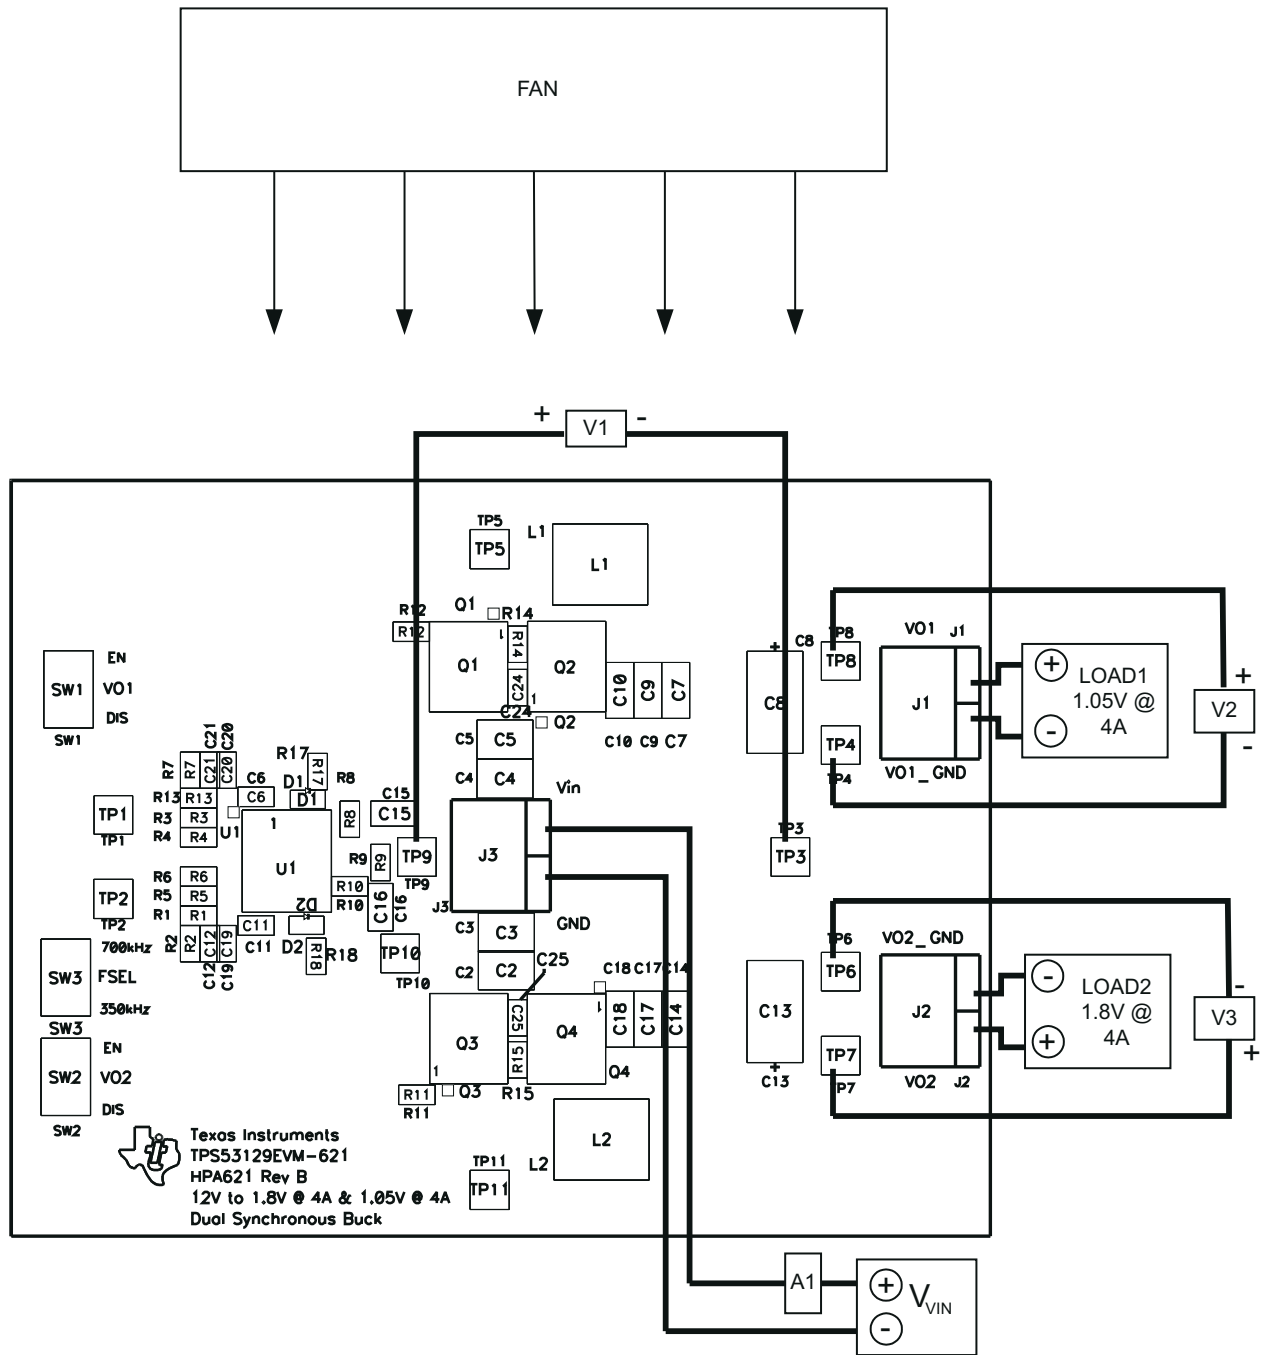

Figure 5-1. TPS53129EVM-621 Recommended Test Setup
Figure 5-1 shows the recommended test setup to evaluate the TPS53129EVM-621. Working at an ESD workstation, ensure that any wrist straps, bootstraps, or mats are connected referencing the user to earth ground before power is applied to the EVM. An electrostatic smock and safety glasses also are recommended.
4. Place a fan as shown in Figure 5-1 and turn on, making sure that air is flowing across the EVM.